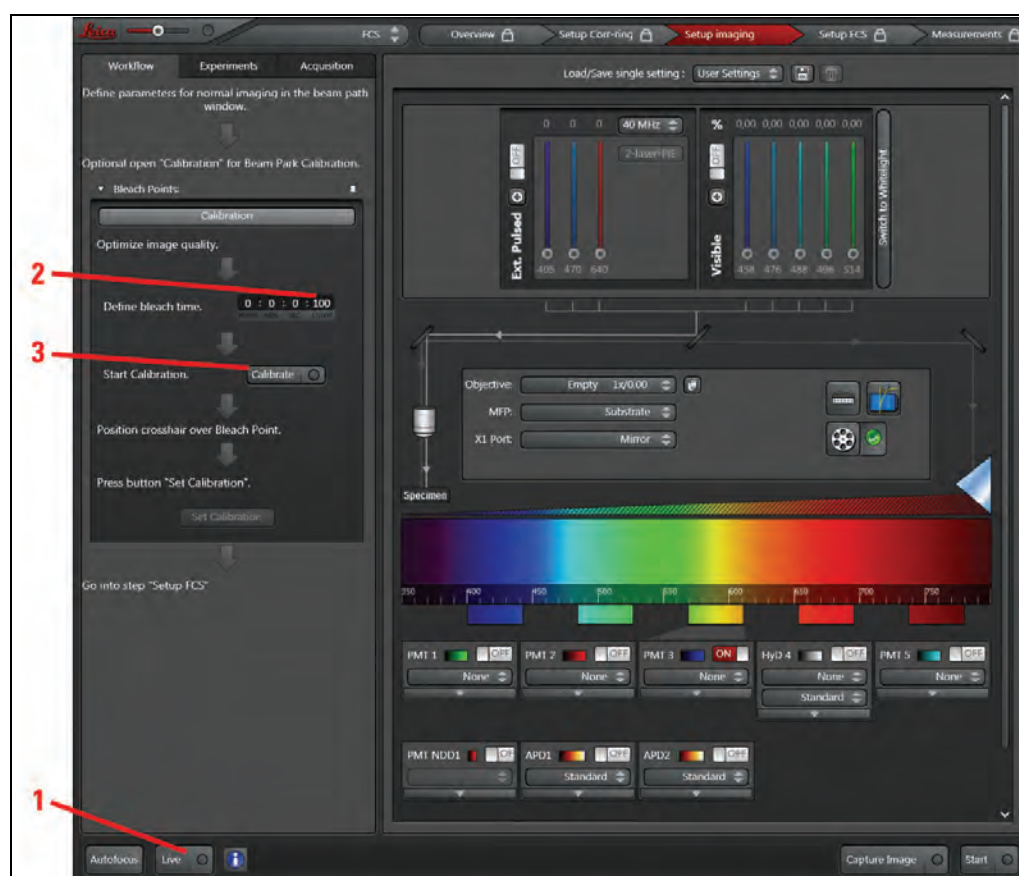

Figure 155: Procedure for calibrating the FCS measurement position – Definition of instrument parameter settings
A window appears for the calibration procedure (**Figure 155**). The system automatically determines the following values: Zoom 32 and pixel format 1024x1024.
11. Start a continuous scan by clicking the **Live** button (**Figure 155, item 1**) and manipulate the **Gain** and **Offset** on the control panel to obtain a well-illuminated image.
12. With **Define bleach time**, enter the bleaching period; The default value is 100 ms (**Figure 155, item 2**). For thin and easily bleached specimens, it may be more useful to select a bleaching period of 500 ms or shorter.
13. Now select the **Calibrate** button (**Figure 155, item 3**).